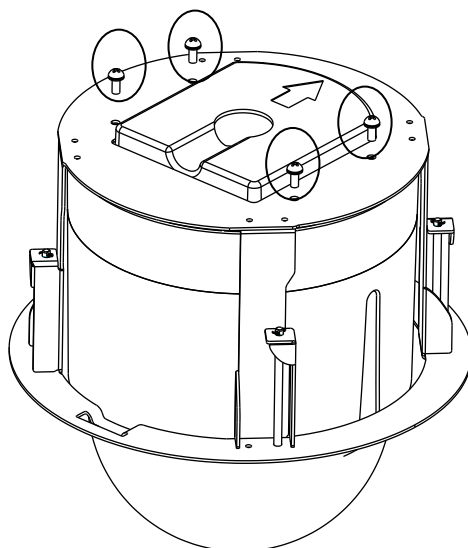

Figure 2-22 Remove the Screws
- 1) Loosen and remove the 4 screws as shown in Figure 2-22.